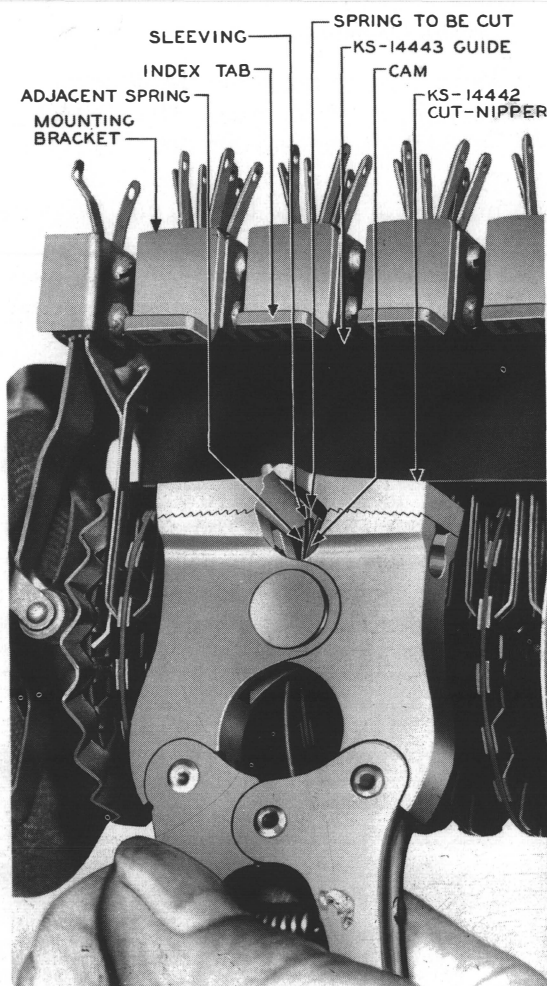

Fig. 1 – Method of Cutting Worn Outer Spring Tips
3.04 With the guide properly located as described in 3.02, and the sleeving in place as covered in 3.03, place the jaws of the KS-14442 cut-nippers over the spring the tip of which is to be replaced and push the jaws back against the guide as shown in Fig. 1.